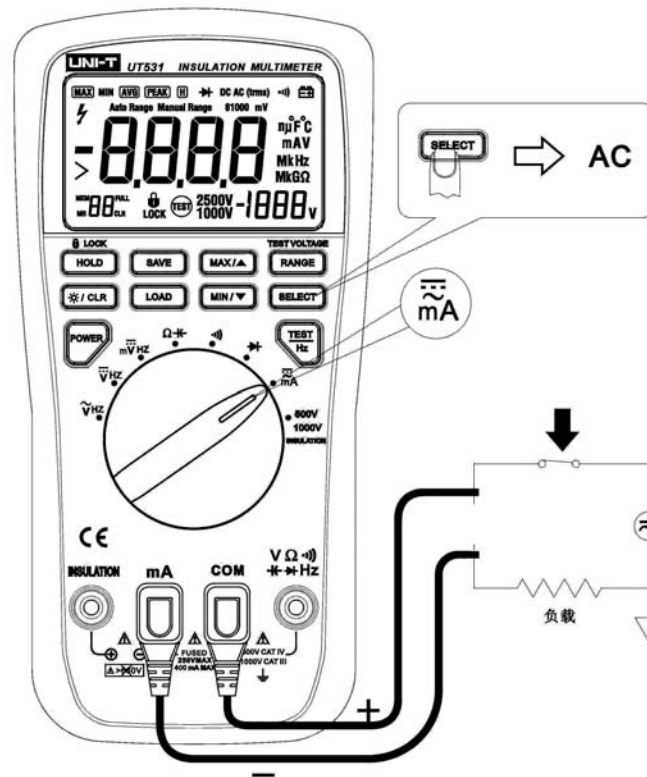

Figure 12.Measuring AC or DC Current
*Measuring AC or DC Current* (see figure 12)